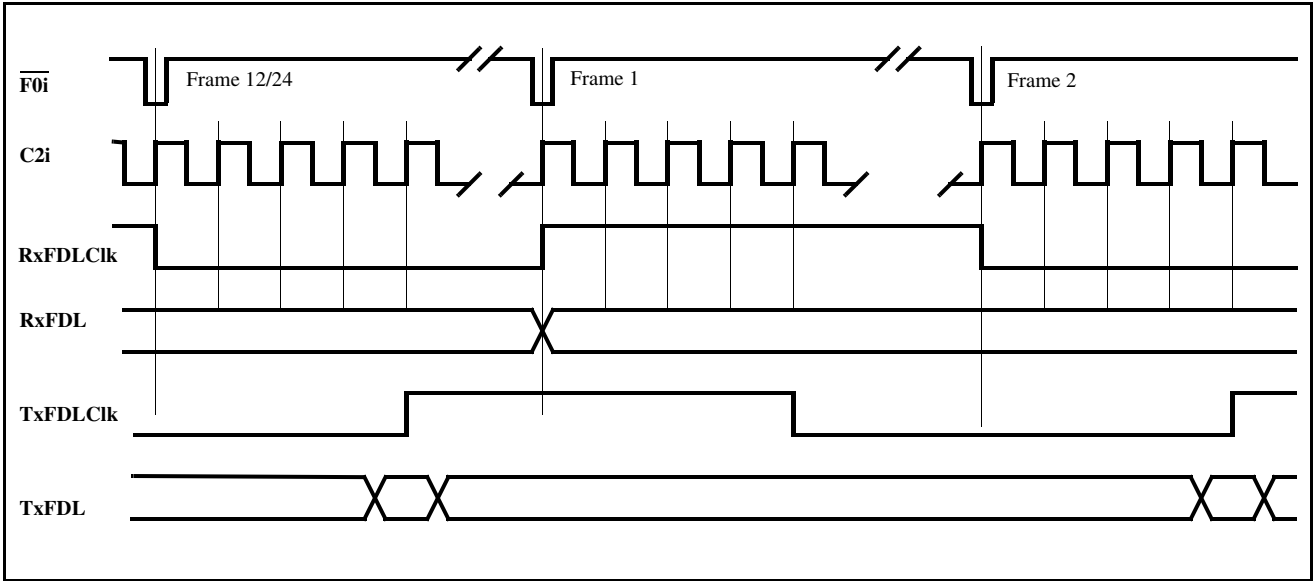

Figure 22 - Clock & Frame Alignment for RxFDL and TxFDL
**AC Electrical Characteristics† - DS1 Link Timing (Figures 22 and 23)**